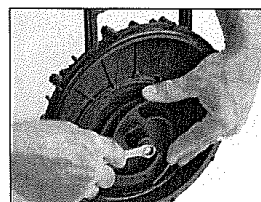

Fig. 3
3. Remove impeller bolt (Ref. 9) with a 13mm wrench. Pry impeller (Ref. 11) off hydraulic motor shaft using two flathead screwdrivers. Inspect impeller and ceramic (Ref. 12) for wear. Ceramic surface must not be scuffed or cracked. To remove ceramic seal from impeller bore, use a small blade screwdriver to wedge the seal out. (See Fig. 3.)